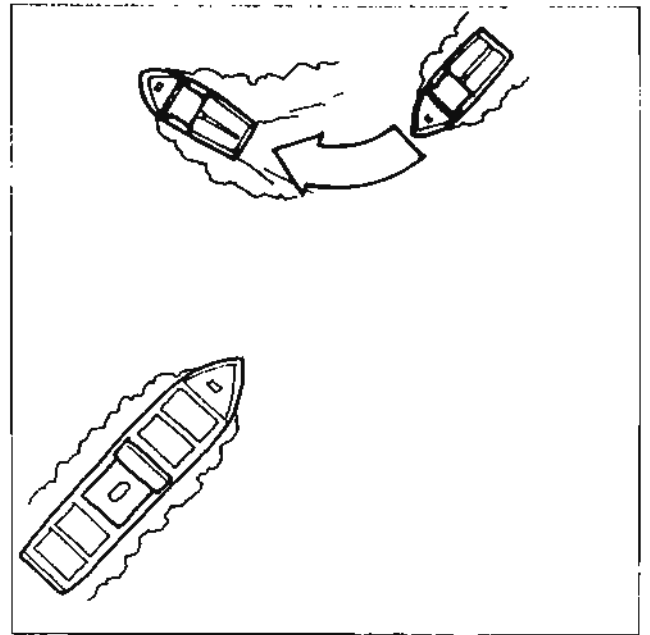

Figure 5-8. Make a large course change when you meet a big ship.
* If you meet a big ship, night or day, make a *large, early* course change. Then the pilot will have no doubt about which way you are heading (Figure 5-8).